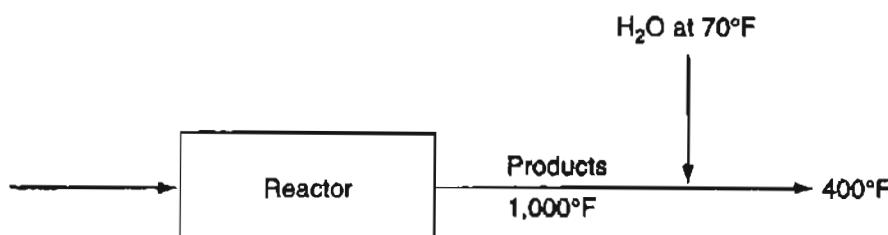

Figure P24.2
- *24.2 Hot reaction products (assume they have the same properties as air) at 1000°F leave a reactor. In order to prevent further reaction, the process is designed to reduce the temperature of the products to 400°F by immediately spraying liquid water into the gas stream. Refer to Figure P24.2.